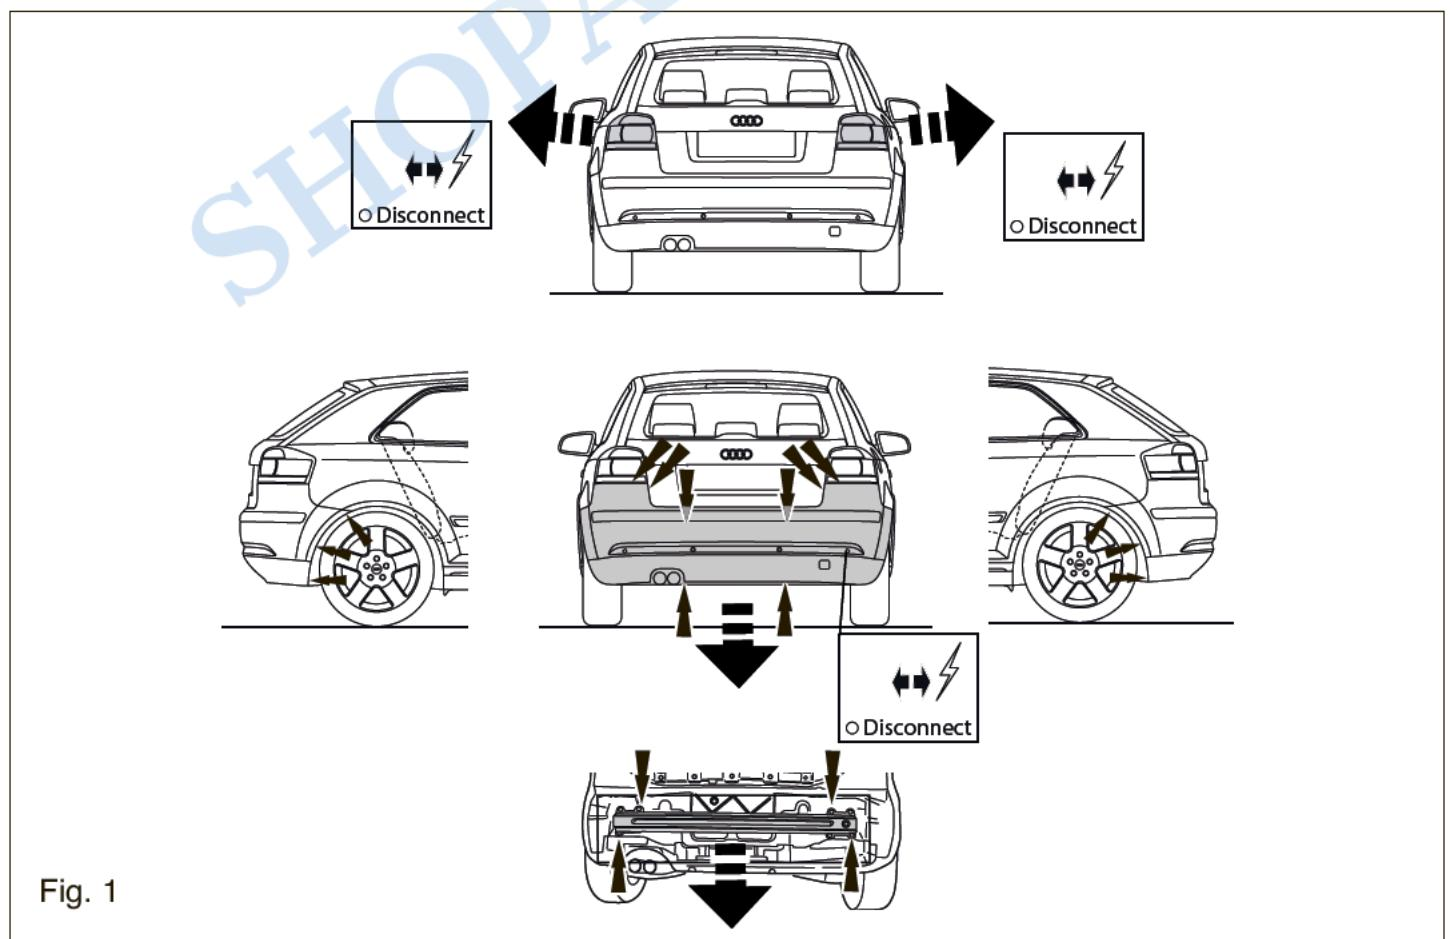

Fig. 1
2. Remove the bumper. See figure 1.